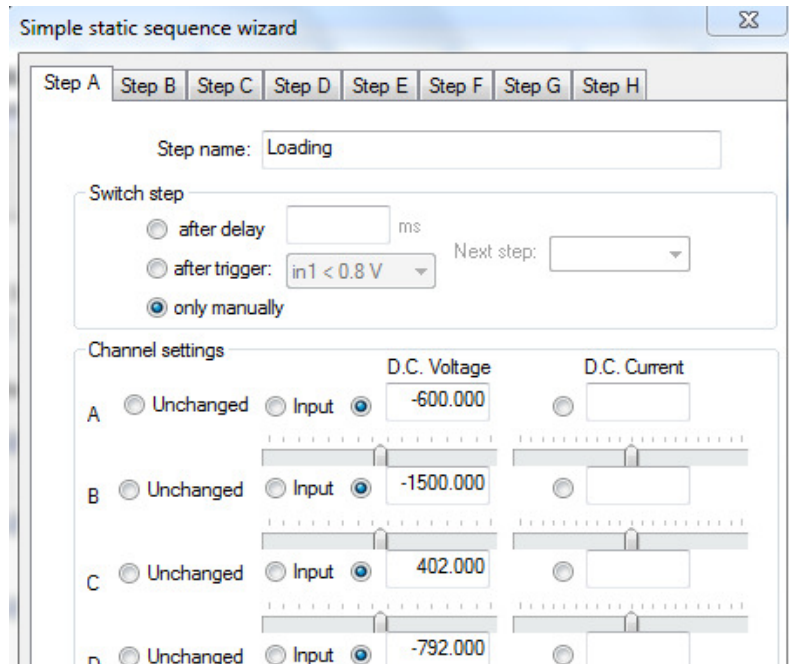

Figure 34. Example: Simple Sequence Wizard Electrokinetic Pinched Injection on a Chip: Step A – Loading.
5. Now set Channels A-D to regulate D.C. voltages, according to **Table 3**. You can either click and drag the DC Voltage sliders to set the values, or enter the values directly in the **DC Voltage** boxes. **Figure 34** shows these settings applied.